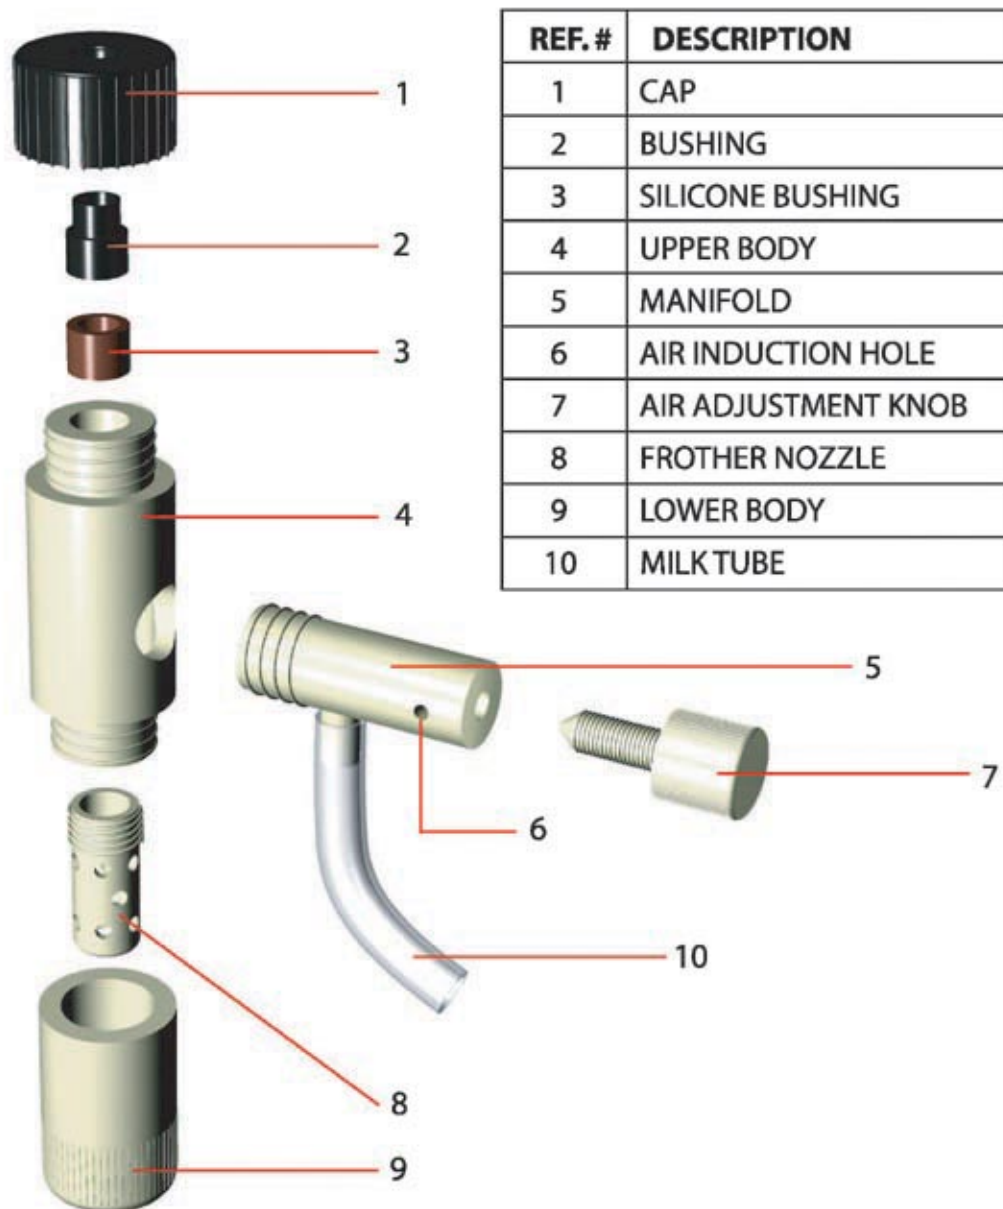

Fig. 10
3. Break down the foamer into 5 pieces as shown in Figure 10.